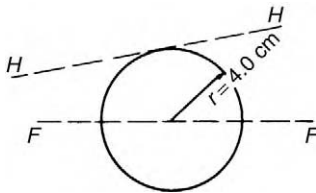

Figure 7.21
3. For the circle shown in Figure 7.21, find the second moment of area and radius of gyration about (a) axis  $FF$  and (b) axis  $HH$